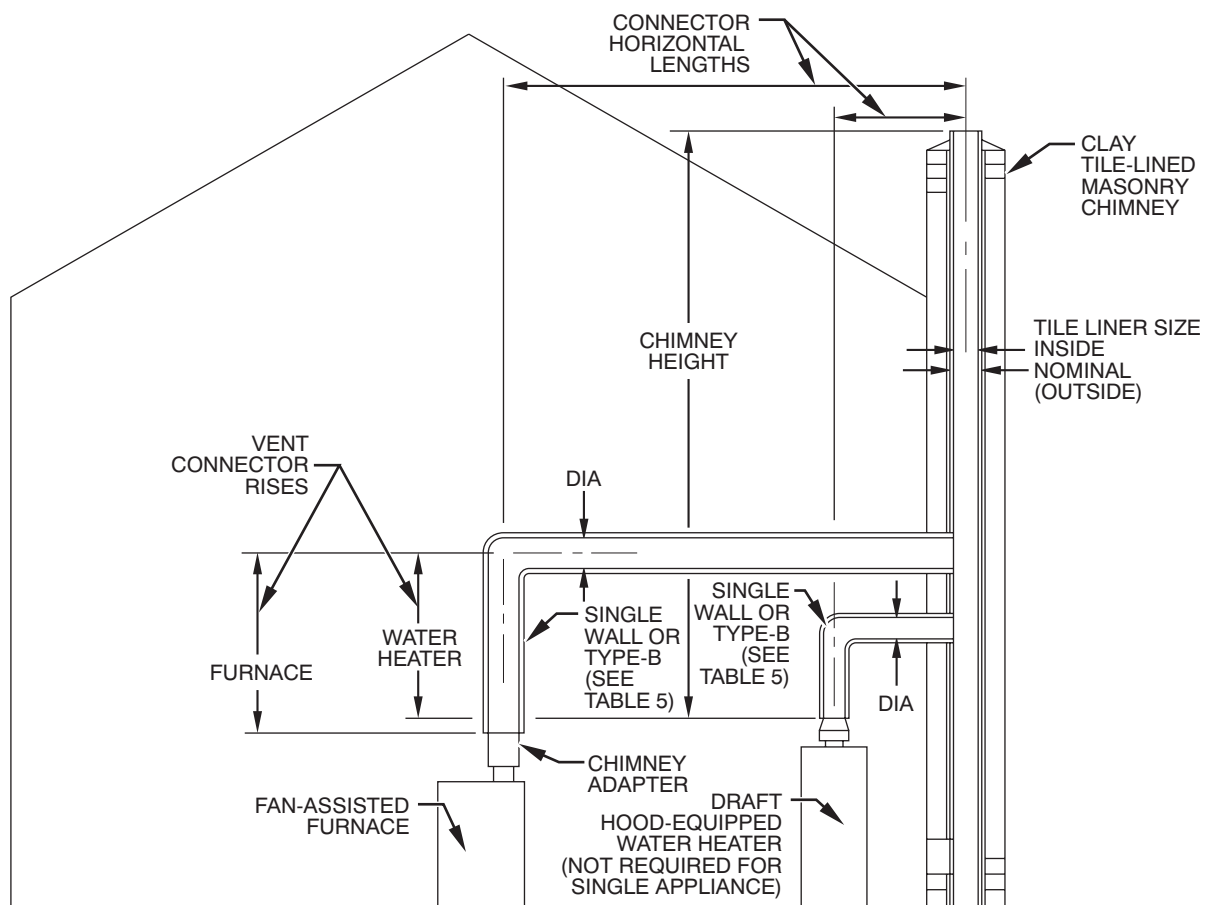

Fig. 1 - Furnace and Water Heater Vent Connectors, Chimney Adapter, and Chimney
NOTE: See Fig. 1 while reviewing the following requirements.
9. Refer to Fig. 1. Secure a Type-B draft hood connector to top of chimney adapter with 3 sheet metal screws (field-supplied). Install Type-B double-wall metal vent connector from draft hood connector to chimney flue opening in accordance with vent pipe manufacturer's Installation Instructions. The horizontal portion of venting system shall maintain a minimum of 1/4-in. upward slope per linear foot away from furnace, and shall be rigidly supported every 5 ft. or less with hangers and straps to ensure that there will be no movement after installation. The connector shall conform to size, rise, and lateral requirements under Venting Requirements and Table 2 of these instructions. Do NOT use the NFGC or NSCNPIC vent connector sizing requirements.